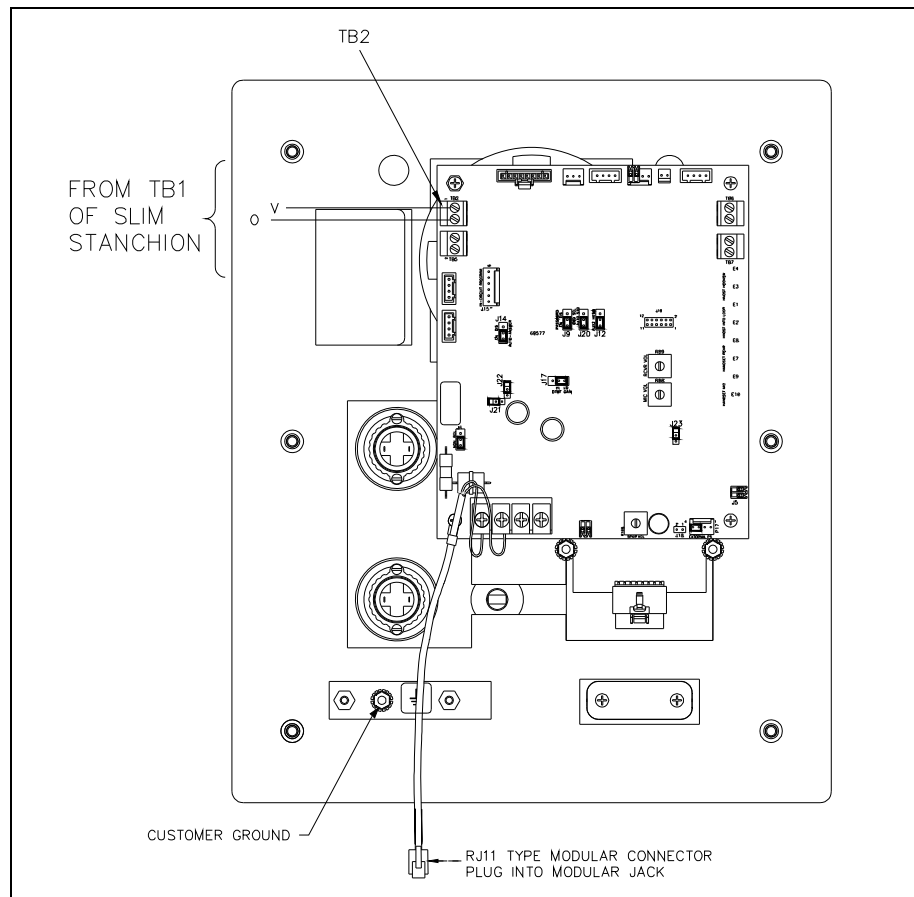
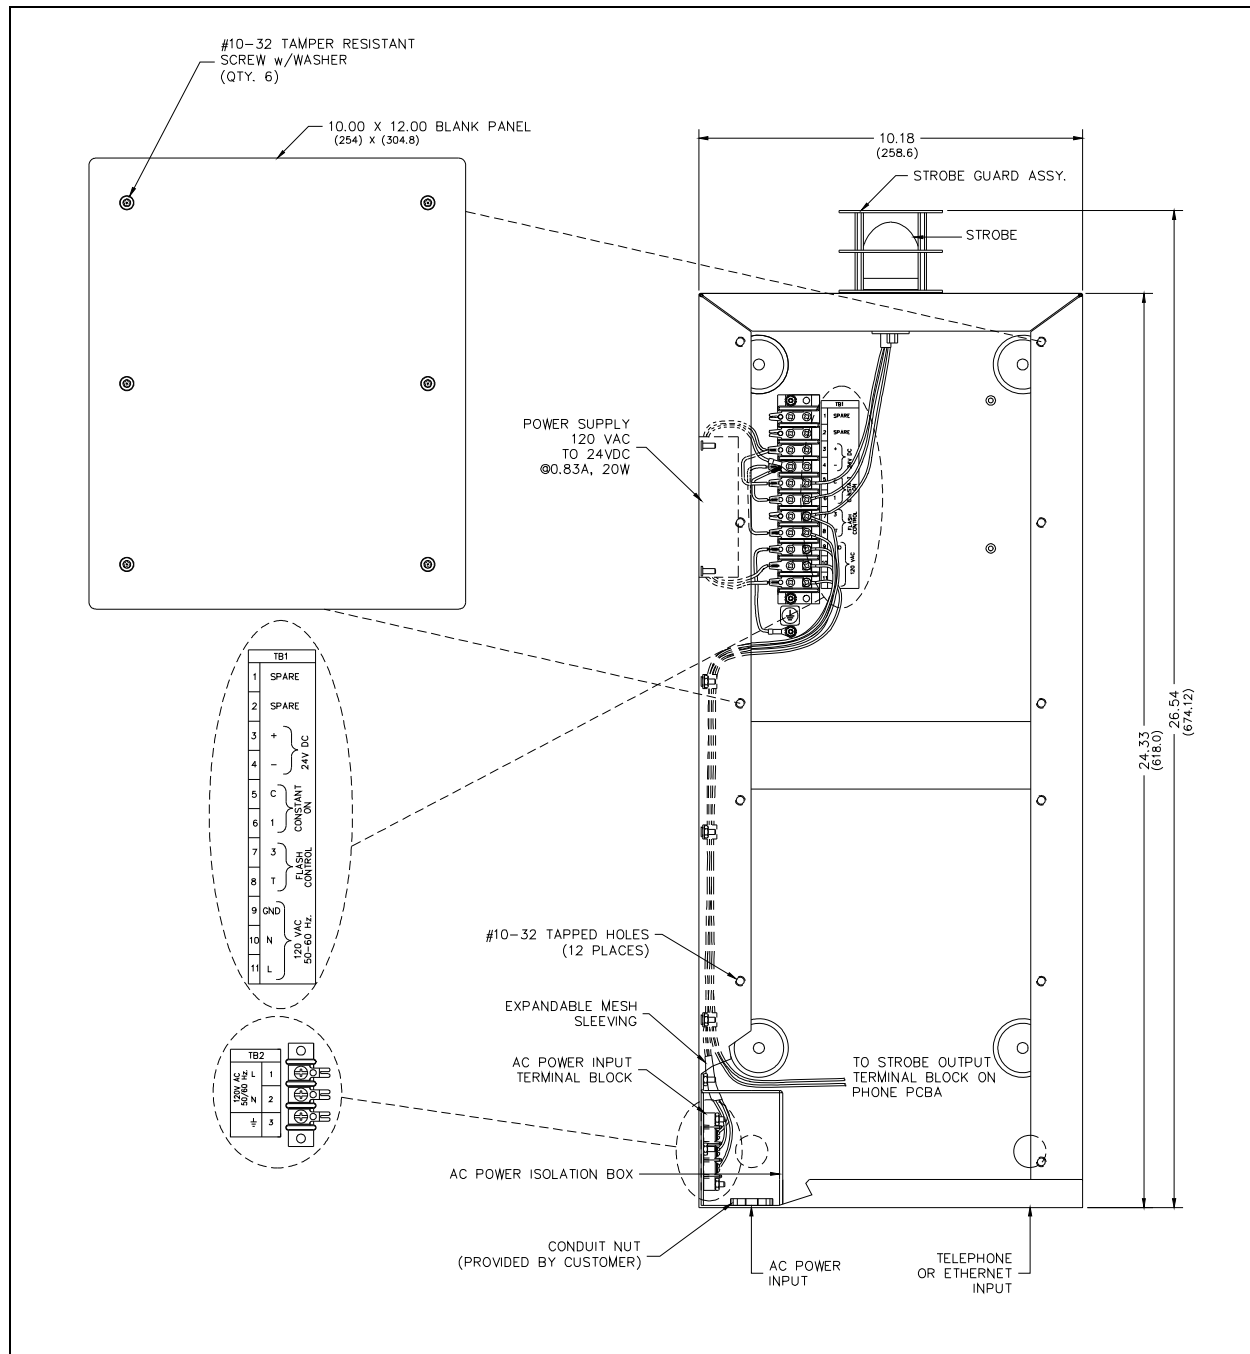
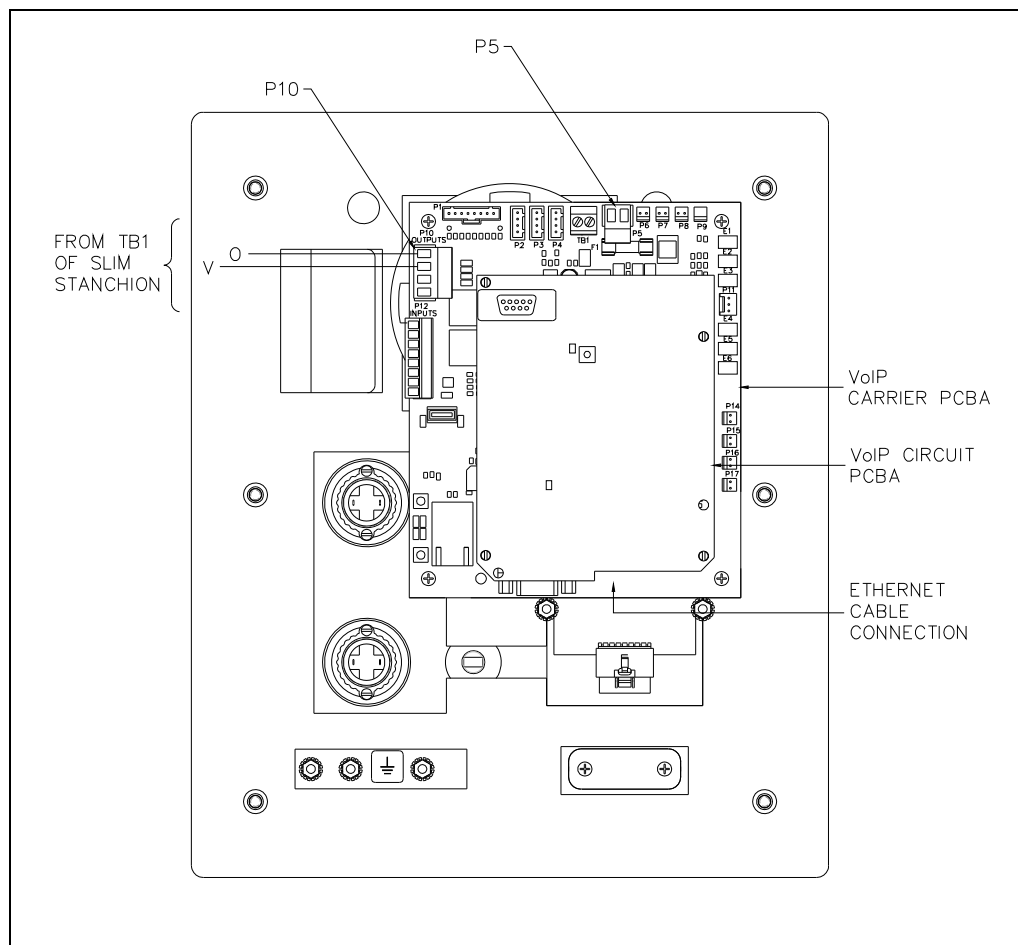

Figure 2.
Figure 3.
Figure 4.
Refer to Figure 2 and Figure 3.
5. Connect the violet (V) and orange (O) beacon wires inside the stanchion to TB2 on the E-phone PCBA as shown in Figure 2.
Refer to Figure 3 and Figure 4.
2. The ac power line must enter the stanchion through one of the holes on the left side of the unit when viewed from the front. Secure the wires to the terminal block as noted on the label. See Figure 3.
3. Install the violet (V) and orange (O) beacon wires from inside the stanchion to P10 on the VoIP Carrier PCBA as shown in Figure 4.
5. Plug the Ethernet cable into the VoIP Circuit PCBA as shown in Figure 4.